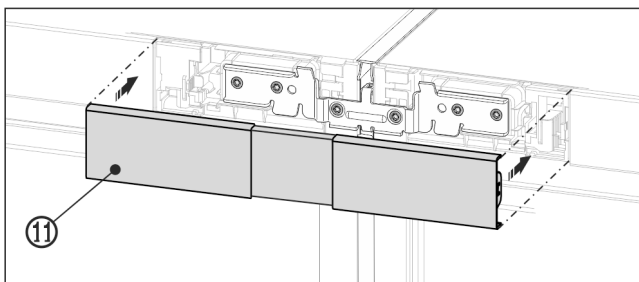

Fig. 27 Example illustration
- ▶ Snap the top cover Fig. 27 (11) onto the still open gap between the two control panel trims. Make sure that the outer sides of the cover form a flush finish with the control panel trims.